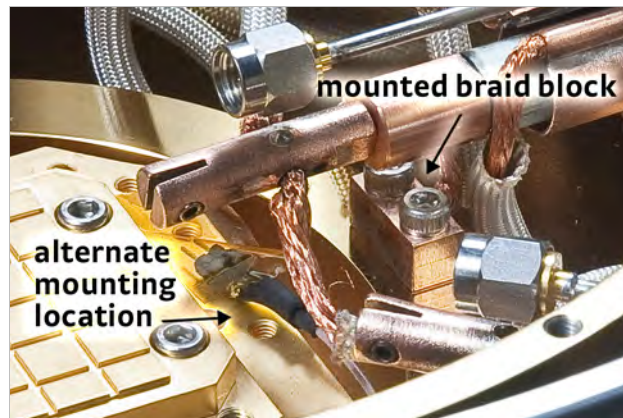

FIGURE 3-20 Braid block mounting holes
In the CPX probe station, the probe mount braids can be anchored to either the sample stage or the 4 K radiation shield stage (FIGURE 3-20). The decision for which location to use can be made based on the specific application. Thermally anchoring to the 4 K stage maintains the probes near the temperature of the 4 K shield stage, while anchoring to the sample stage allows the probes to change with the sample temperature. For most applications a probe cooled to or below the sample
- a. Using the x-axis hand dial and y-axis micrometer, move the probe arm to expose the braid block mounting holes in the 4 K shield stage (FIGURE 3-20).
- c. Using the 2.5 mm hex driver, attach the braid block to the 4 K shield stage with the two M3 captive screws (see FIGURE 3-20 for an image of the mounted braid block).
The probe mount braids can touch neighboring probe braids or the stage it is anchored to, but should not touch adjacent stages. In the CPX probe station, the probe mount braids can be anchored to either the sample stage or the 4 K radiation shield stage (FIGURE 3-20).
3. Using the 2.5 mm hex driver, loosen the two captive screws on the braid block (FIGURE 3-20).
- b. Using tweezers or your fingers, position the braid block over the mounting holes (FIGURE 3-20).